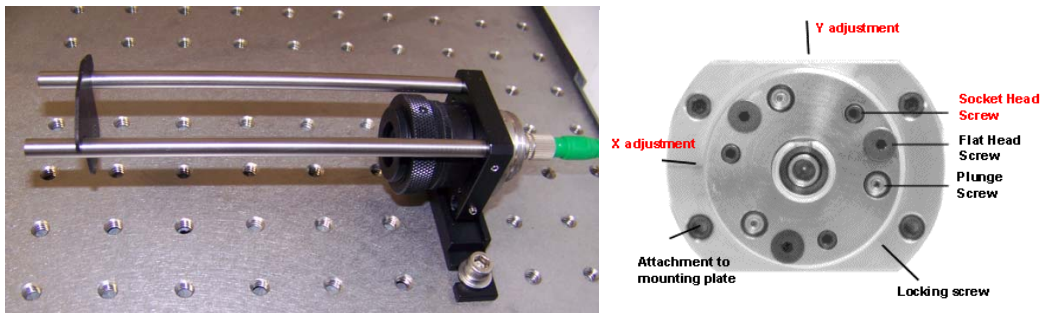

Figure 4.1.1 (Right) FiberPort Alignment Configuration, (Left) FiberPort with adjustment screws.
- 8) Ensure that beam is parallel to the cage structure by sliding the alignment plate (Item # VRC4CPT) along the ER6 cage (temporarily attached) rods as shown on Figure 4.1.1. with the iris adjusted to its smallest aperture. The intensity of the beam transmitted through the hole in the alignment plate should be constant as the distance the alignment plate is from the iris is changed.